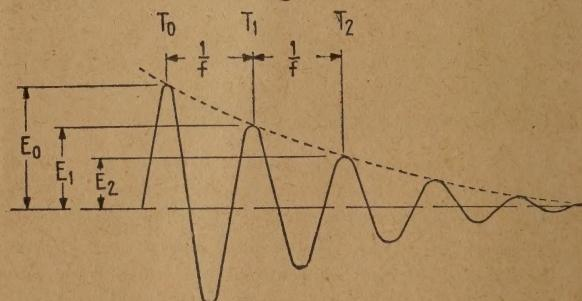

Fig. 2.
This system is illustrated in Fig. 2, where the amplitudes are shown for E_0 , E_1 , and E_2 . By using a great enough number of cycles, the accuracy of measurement can be made as great as we please, assuming that the oscilloscope picture can be measured accurately enough. For example, if we measure the drop in amplitude at the 40th cycle, and if our measurement of length can be made to within 1 per cent., we will obtain the value of Q to within 3 per cent. for Q 's up to 200. In addition, we will be able to measure it to within 4 per cent. for values up to 300, and within 5 per cent. for values up to 500. If we use smaller numbers of cycles, the values up to which these accuracies are obtainable will be smaller. For example, if $n = 20$, we get 3 per cent. accuracy up to a Q of 100, and so on, in proportion. This is illustrated in the curves of Fig. 6, which are given to enable the calculation from equation (4) to be dispensed with.